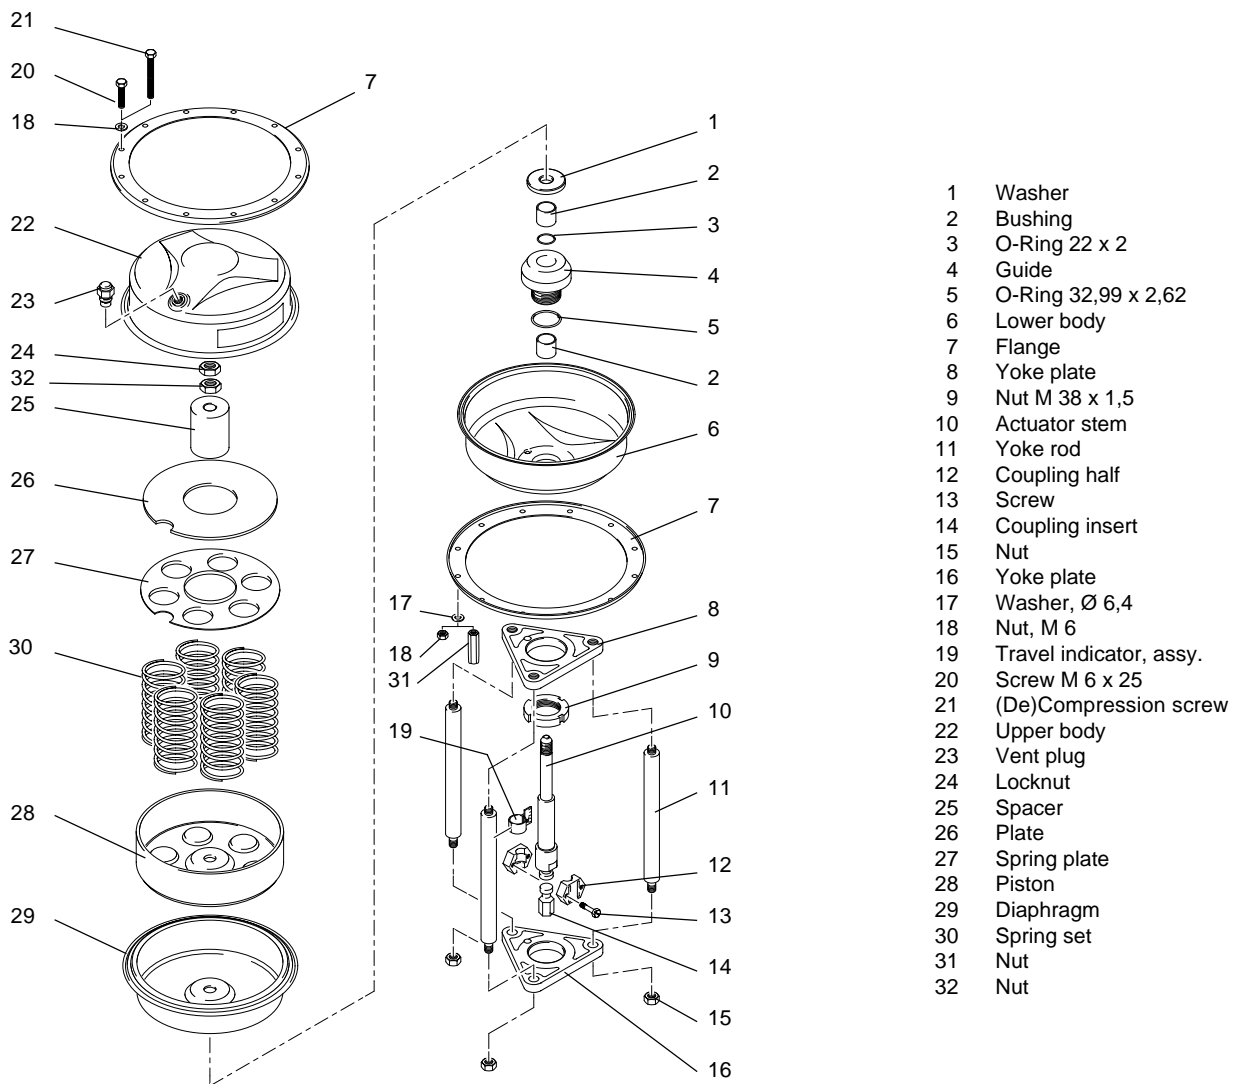

Fig. 1: Series 1 On-Off Actuator, Air-to-Open
- 5.1 Examine gaskets for leaks and if necessary re-tighten bolts (see Fig. 1).